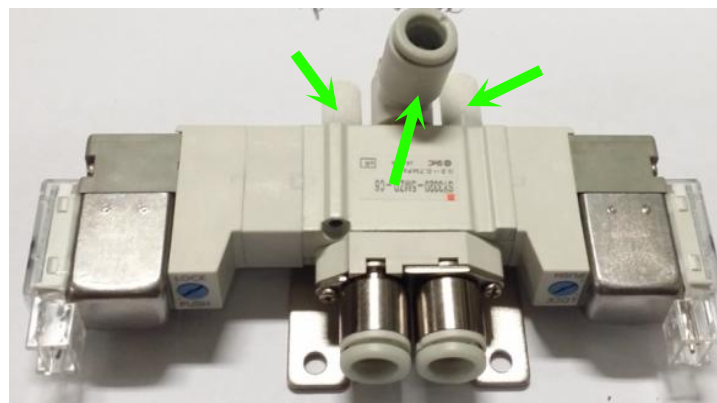

Figure 7 S2EX Clamper Controller Kit
- Assemble Fitting and Silencer at S2 EX Clamper Controller Kit. May refer to below Figure 7